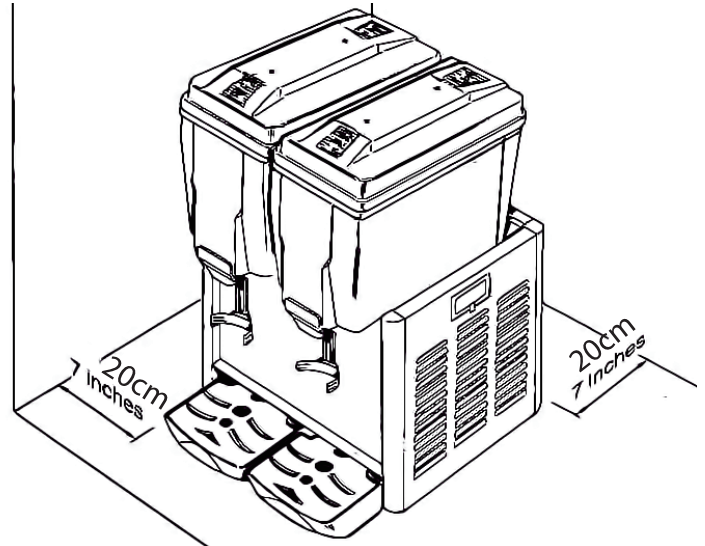

Fig. 1
4. For good ventilation, keep a distance of 20cm(7 inches), between unit and walls or other objects. Increase the distance if the obstacles are a heating source. When the dispenser is in place, adjust the legs in order to keep it level. (FIG.1)